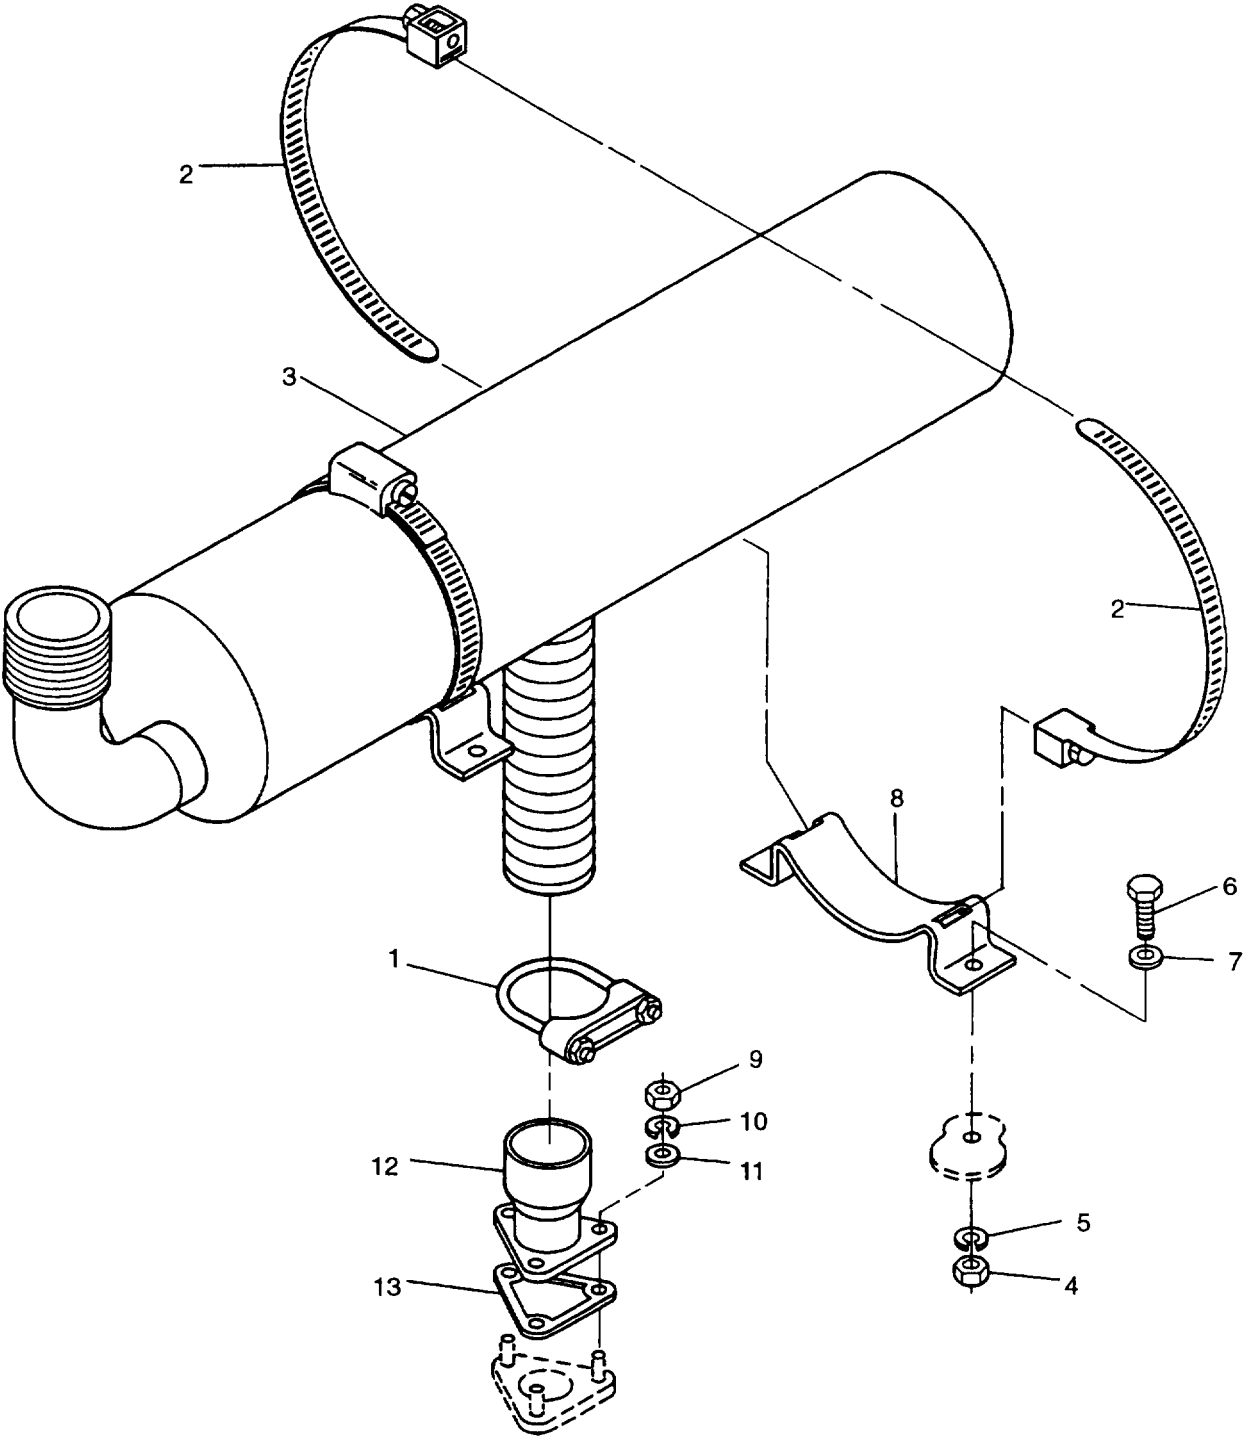

FIGURE 2-20. Muffler and Exhaust Pipe
- c. Loosen nuts and remove clamp (1, FIGURE 2-20).
- d. Open bands (2) and separate muffler (3) and exhaust and adapter (12). Remove muffler (3) from generator set.
- e. Remove nuts (4), lockwashers (5), bolts (6), washers (7), and muffler supports (8).
- f. Remove nuts (9), lockwashers (10), washers (11), exhaust adapter (12), and gasket (13).
- a. Install muffler supports (8, FIGURE 2-20) with bolts (6), nuts (4), lockwashers (5), and washers (7).
- b. Install exhaust adapter (12) and gasket (13) and secure with nuts (9), lockwashers (10), and washers (11).
- c. Couple muffler (3) to exhaust adapter (12) with clamp (1). Do not tighten clamp (1).
- d. Secure muffler (3) to supports (8) with bands (2).
- e. Tighten clamp (1).